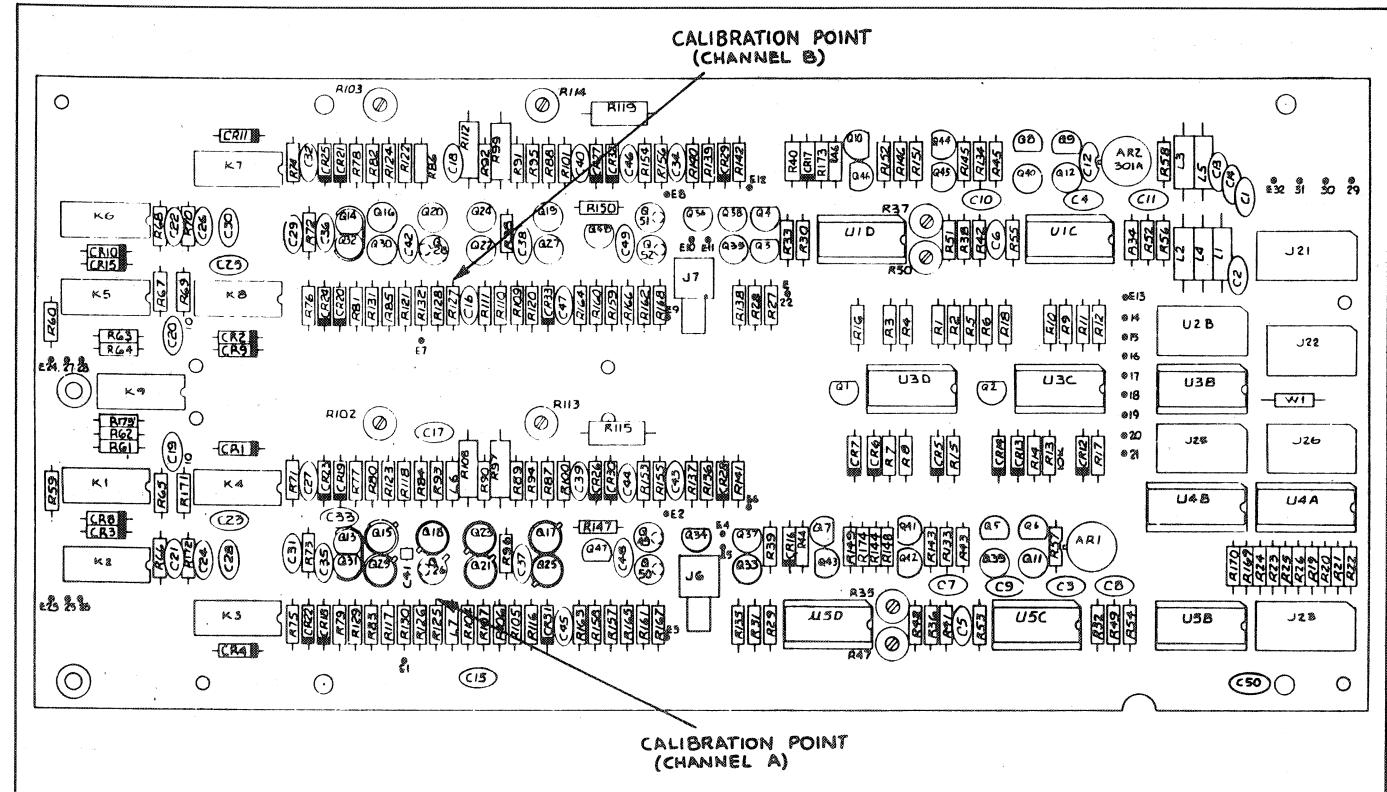

Figure 4.2 - Programmable Signal Conditioner Calibration Points
4.2 The option 008 requires no calibration; the calibration of the 009 option is performed following the normal calibration of the 8000B Series Counter. The equipment required is listed in table 4.1 and with the exception of an optional jumper assembly is a portion of the equipment used for calibrating the Model 8000B. Calibration points are provided in figures 4.2 and 4.3.